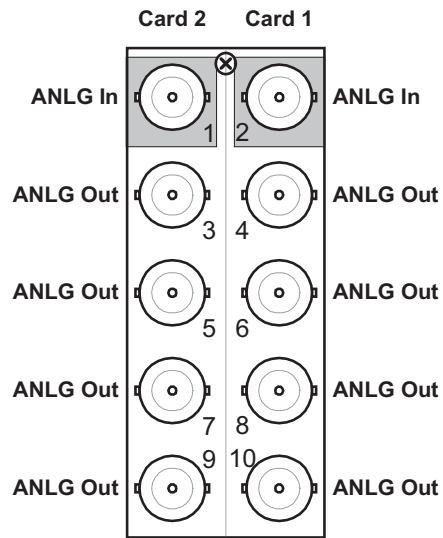

Figure 2.4 Cable Connections for the 8320AR-031 Rear Module
- **8320AR-031** Split Rear Module — Each card occupies one slot and provides one analog input, and four analog outputs. (**Figure 2.4**)